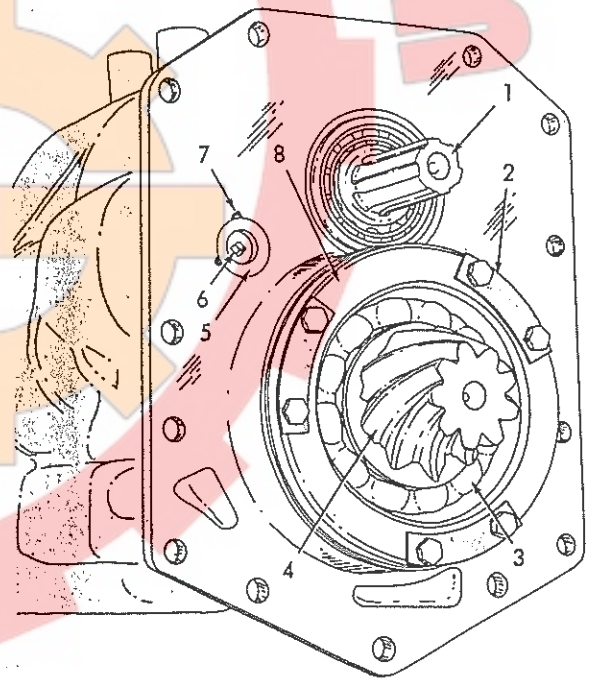

Fig. 10 Transmission Shafts Installed - Rear View
12. Unlock and remove capscrews from pinion shaft rear bearing retainer Fig. 10 (8). Remove retainer and retainer shims; tie shims to retainer to prevent loss.
- c. Position reverse gear shaft, Fig. 6 (12) so hole for steel ball is in line with notch in transmission case. Start shaft in its bore and install steel ball in shaft; drive shaft into position. Install plug in end of shaft, Fig. 10.